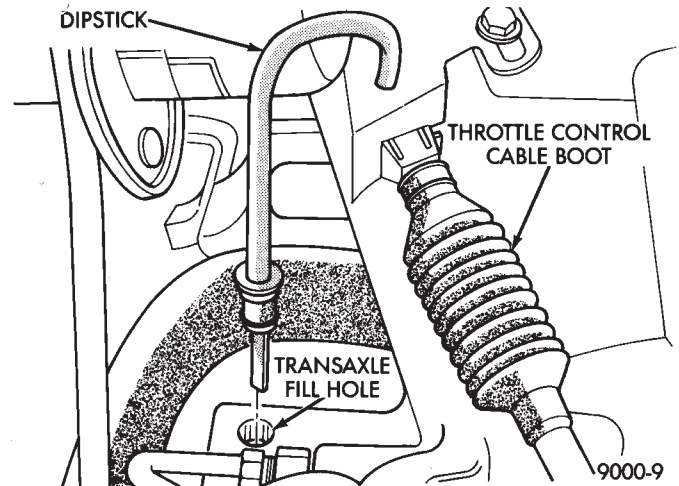

Fig. 2 3-speed Automatic Transaxle Fill hole
- (1) Position the vehicle on a level surface.
- (2) Start engine and allow to idle in PARK for at least 60 seconds. The warmer the transaxle fluid, the more accurate the reading.
- (3) While sitting in driver seat, apply brakes and place gear selector in each position. Return gear selector to park.
- (4) Raise hood and remove transaxle fluid level indicator (dipstick) and wipe clean with a suitable cloth.
- (5) Install dipstick and verify it is seated in fill hole or tube (Fig. 2 or 3).